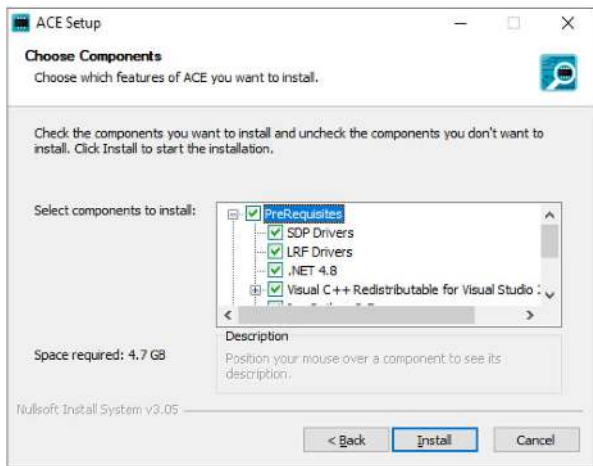

Figure 3. Drivers to Install with ACE Software
1. Install the latest version of ACE software. In the ACE Setup window, ensure that the SDP Drivers, LRF Drivers, and .NET 4.8 driver installations are selected as well (see Figure 3), then click Install.